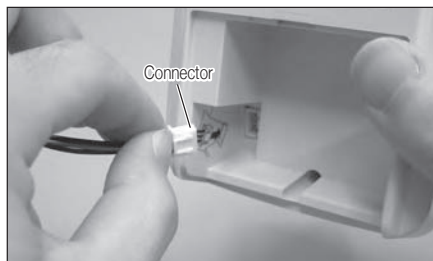

Fig. 14
- 3) Take out the old batteries, and pull out the cord, holding it at the connector. (Fig. 14)